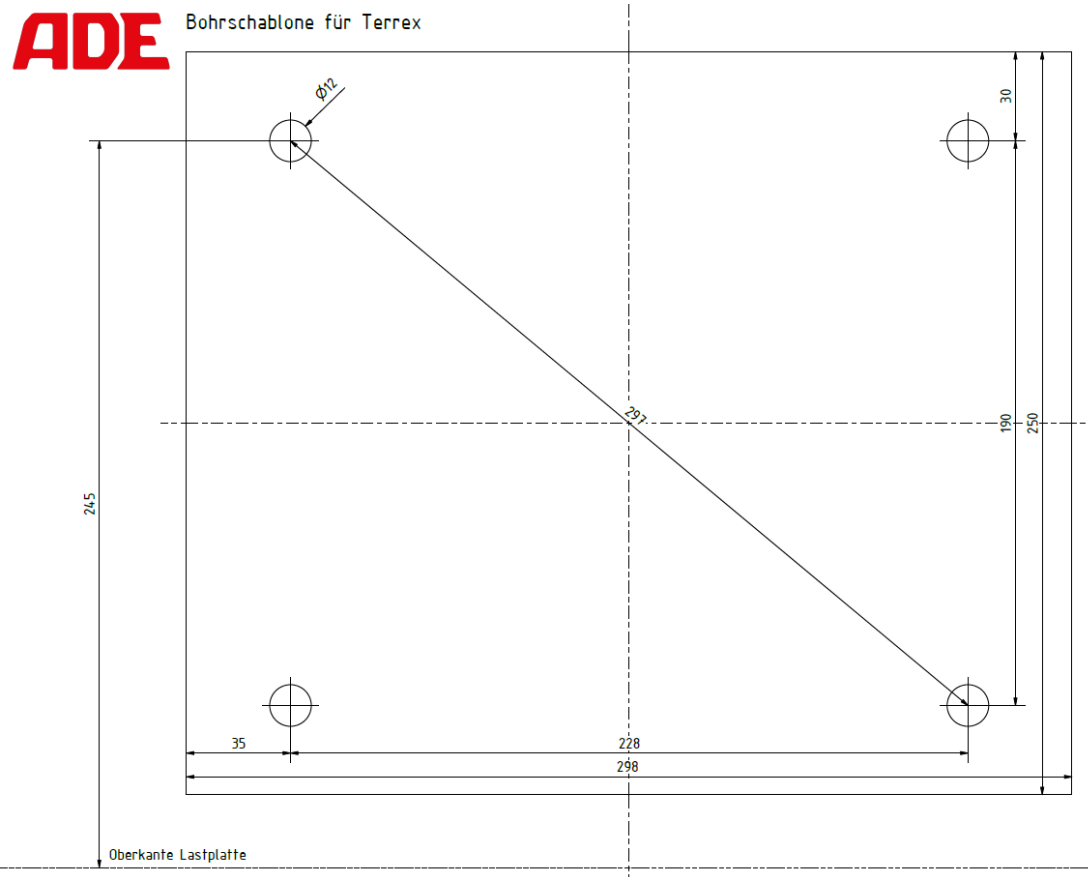

Figure 3: Dimensional drawing for wall mounting
4. Use the drawing (Figure 3) or the supplied drill template to mark the drill holes.